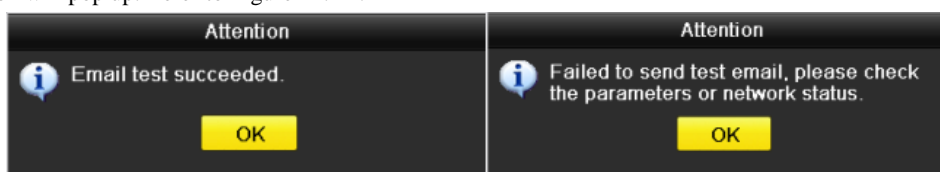

Figure 11. 24 Email Testing Attention
7. You can click **Test** button to test whether your Email settings work. The corresponding Attention message box will pop up. Refer to Figure 11. 24.